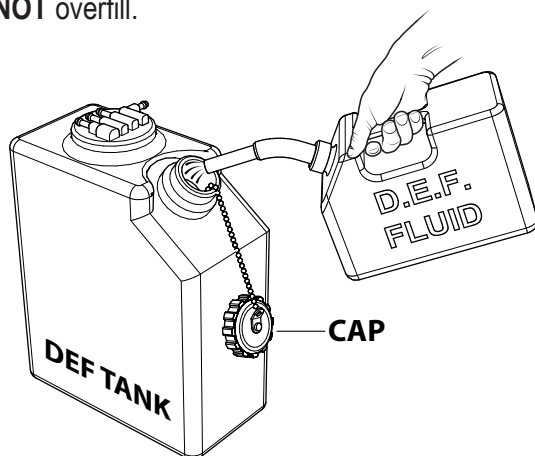

Figure 41. Filling The DEF Tank
2. Remove the DEF tank filler cap (Figure 41).